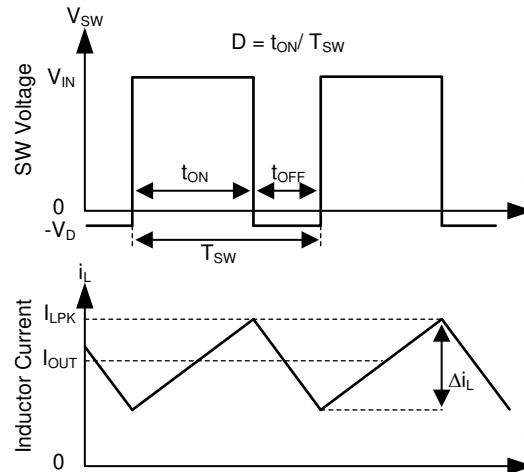

图 10-1. SW Node and Inductor Current Waveforms in Continuous Conduction Mode (CCM)
The following operating description of the TPS2584x-Q1 will refer to the Functional Block Diagram and the waveforms in Figure 10-1. TPS2584x-Q1 is a step-down synchronous buck regulator with integrated high-side (HS) and low-side (LS) switches (synchronous rectifier). The TPS2584x-Q1 supplies a regulated output voltage by turning on the HS and LS NMOS switches with controlled duty cycle. During high-side switch ON time, the SW pin voltage swings up to approximately V_{IN} , and the inductor current i_L increase with linear slope $(V_{IN} - V_{OUT}) / L$. When the HS switch is turned off by the control logic, the LS switch is turned on after an anti-shoot-through dead time. Inductor current discharges through the LS switch with a slope of $-V_{OUT} / L$. The control parameter of a buck converter is defined as Duty Cycle $D = t_{ON} / T_{SW}$, where t_{ON} is the high-side switch ON time and T_{SW} is the switching period. The regulator control loop maintains a constant output voltage by adjusting the duty cycle D . In an ideal buck converter, where losses are ignored, D is proportional to the output voltage and inversely proportional to the input voltage: $D = V_{OUT} / V_{IN}$.